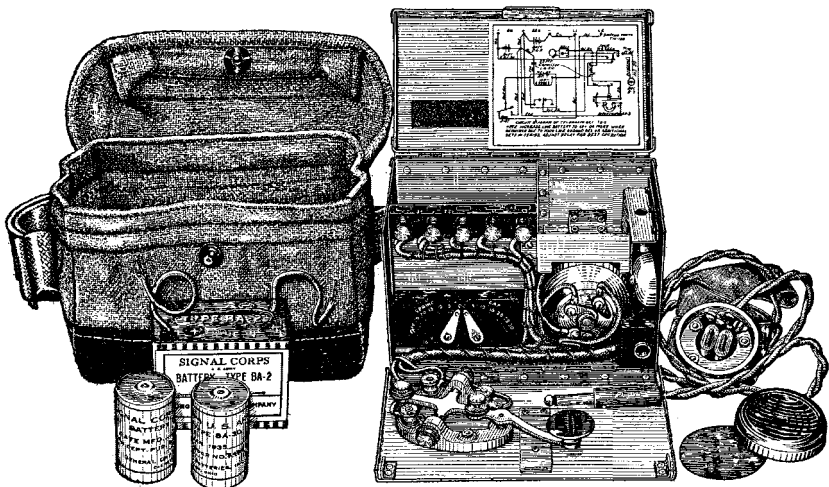
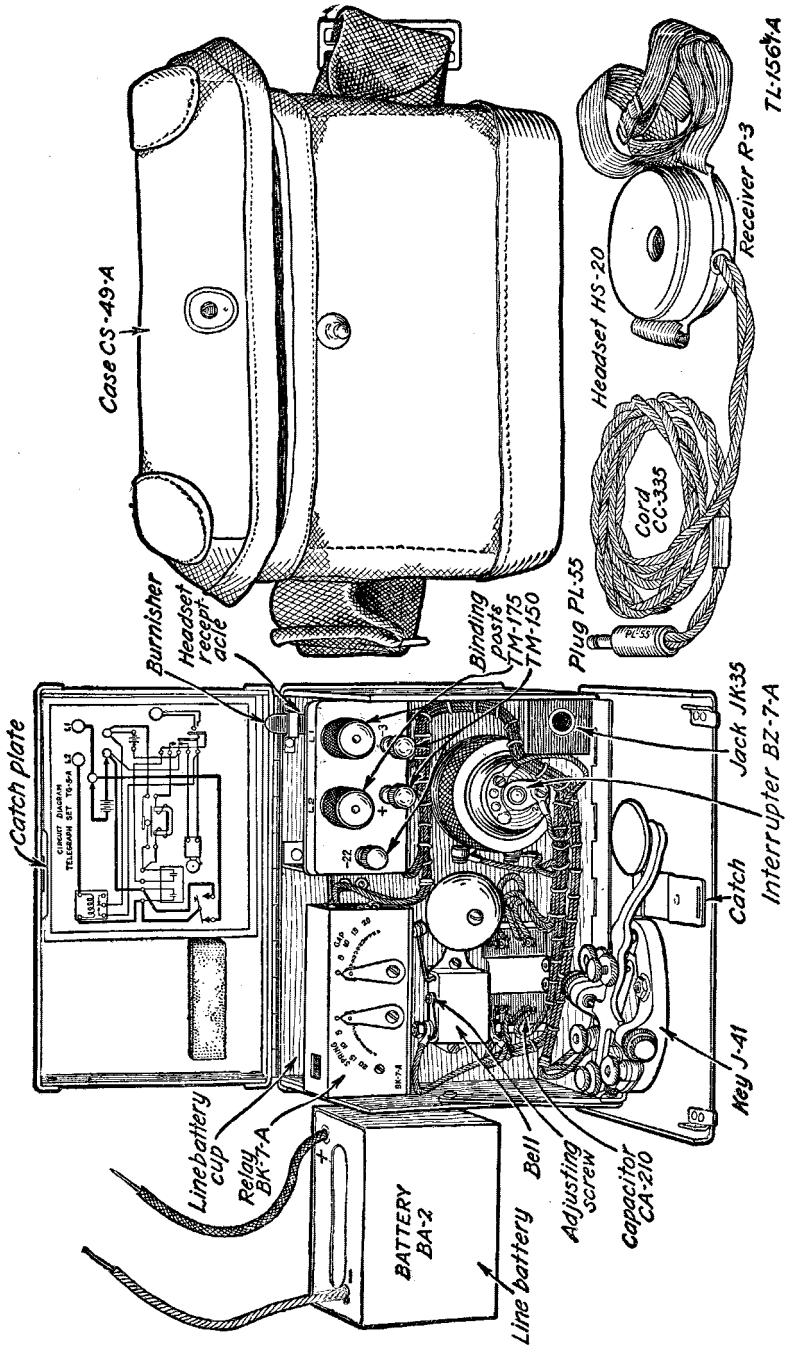
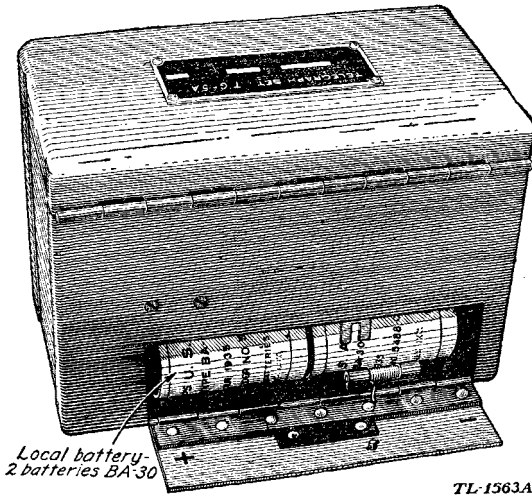

FIGURE 1.—Telegraph set TG-5—component parts and batteries.
FIGURE 2.—Telegraph set TG-5-A—component parts and line battery.
FIGURE 3.—Telegraph sets TG-5 and TG-5-A—local battery housing and its batteries.
5. **Parts.**—Figures 1 and 2 and the list below show the principal components of the set. All batteries for TG-5 are shown in figure 1, but only the line battery for TG-5-A is shown in figure 2. For position of local battery, see figure 3, which applies to both sets. The batteries required are not parts of the sets and must be requisitioned separately. The operating parts are described in section II; for complete information thereon see the Signal Corps General Catalog. The batteries and parts of the sets are listed below:
the local battery housing shown in figure 3. This housing is closed by a door marked + at one end and - at the other. The door is so hinged at the bottom that it springs open when the stud-and-pin catch at its top is released by a quarter turn. The local batteries are held in place by a coil spring contact at the - end of the housing, a flat spring contact at the + end, and a phenolic plate attached to the door. The box for telegraph set TG-5-A also contains a burnisher in a leather scabbard.
set is in the upright position shown in figure 2. When the plug is inserted in the jack, the local battery is connected to the circuit at that point and the interrupter operates continuously, using power from the local battery. A series circuit containing the headset, the interrupter, the relay contacts, and the local battery is normally open at the relay contacts, but when the relay contact is made, this circuit is closed and the tone is heard strongly in the headset. Consequently, while the interrupter produces its tone continuously when the plug is inserted in the jack, the tone is heard strongly in the headset only when the relay is operated by its own key or by that of another set.
**16. Relay.**—*a. Relay BK-7* (part of telegraph set TG-5).—The relay is contained in a black bakelite housing with two pointers mounted on the front side for adjusting the spring tension on the armature and the air gap between the armature and core ends. The pointers are designated “spring” and “gap,” respectively, and move over graduated scales from 0 to 30. (See fig. 1.) The relay has a
*b. Relay BK-7-A* (part of telegraph set TG-5-A).—Relay BK-7-A is contained in a black bakelite housing and is located just over the bell. Its armature makes and breaks the relay contacts. On the front of the relay are two pointers marked “spring” and “gap” which move over scales, graduated and marked in steps of 5, from 0 to 20. (See fig. 2.) The controls operated by these pointers are notched for each unit setting, however, and may be set at any unit at or between the scale markings. The spring pointer controls the amount of tension on spring of the armature, and the gap pointer controls the air gap between the armature and the magnet core ends. The relay winding has a resistance of 600 ohms, and the relay may be adjusted to operate on a current as low as 1.0 milliamperes. (See par. 22.) Terminals at one end provide connections to the winding and the contacts. An opening in the top of the housing permits cleaning the relay contacts with the burnisher supplied with the set. Another opening in the bottom of this housing permits access to the tension spring and thread. If the plug is in the jack, the relay contacts connect the local battery in series with the interrupter and the headset; if the plug is not in the jack, the relay contacts connect the local battery in series with the bell. Breaking the relay contacts opens those circuits. In figure 5, the relay contacts are broken.
*b.* Open the local battery housing and install two batteries BA-30 as indicated in figure 3, being sure that the top of the right-hand one is in contact with the bottom of the left-hand one. Close and secure the door. If batteries BA-30 are not available, see instructions in *e* below. If the bell rings, open the box and set the spring and gap pointers at 0. If it continues to ring, increase the spring pointer setting one-notch at a time until the ringing stops.